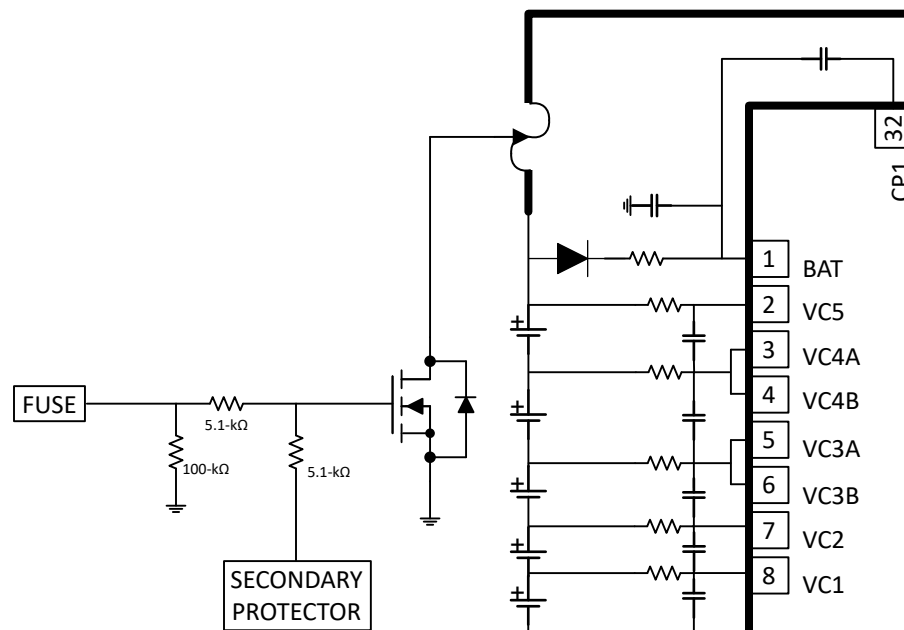

図 7-4. FUSE Pin Operation
The FUSE pin on the BQ76922 device can be used to blow a chemical fuse in the presence of a Permanent Fail (PF), as well as to determine if an external secondary protector in the system has detected a fault and is attempting to blow the fuse itself. The pin can drive the gate of an NFET, which can be combined with the drive from an external secondary protector, as shown in Figure 7-4. When the FUSE pin is not asserted by the BQ76922 device, it remains in a high-impedance state and detects a voltage applied at the pin by a secondary protector. The device can be configured to generate a PF if it detects a high signal at the FUSE pin.